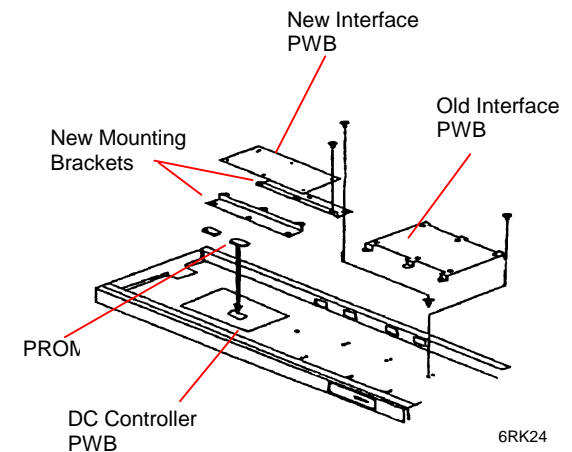

**Figure 4. Removing the Top Cover**
5. (Figure 4): Remove the three remaining screws, the Top Cover, and the Inner Shield.